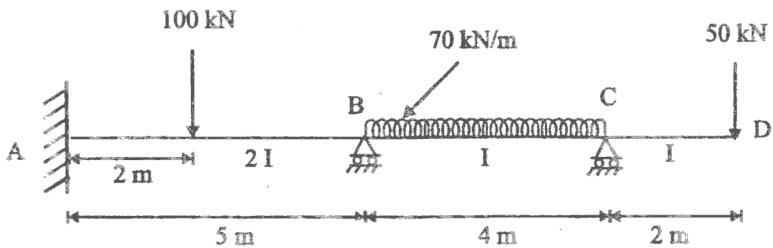

Fig. 8
8. Analyse the beam shown in fig. 8 by Displacement method of structural analysis. 20